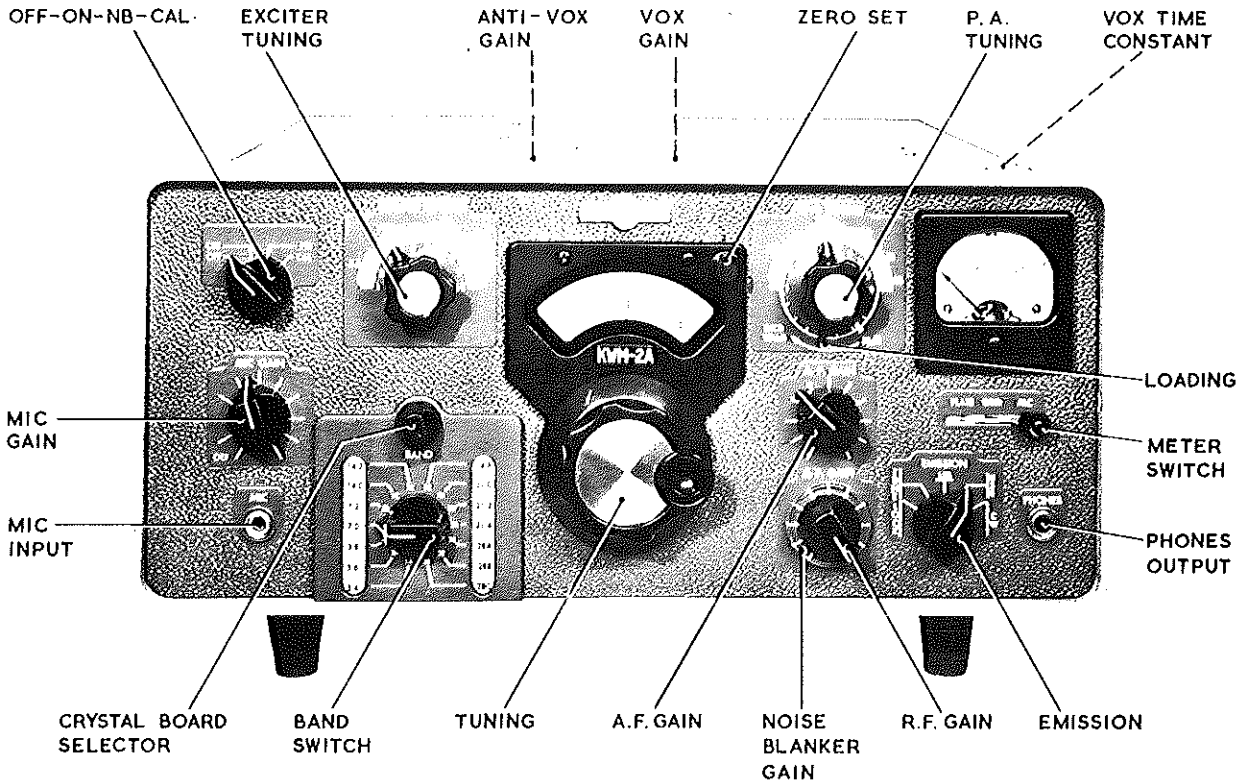
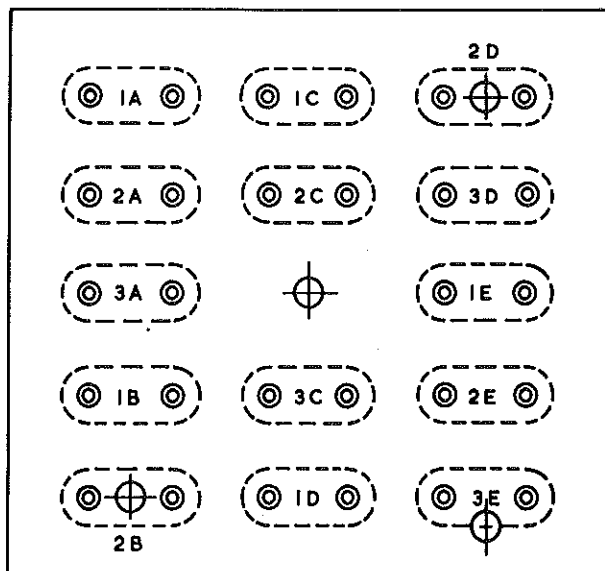

Fig. 1 Transceiver KWM-2A - controls and switches
Fig. 5 Crystal socket location
2. Fig. 1, 2 and 3 show the position of the switches and controls used in these procedures and Table 7 at the end of this chapter details the function of each switch or control. Calibration charts (fig. 6) are included which relate tuning control settings with frequency.
9. The transceiver KWM-2A provides a total of twenty-eight 200-kHz frequency bands in the range 3.4 MHz to 30 MHz. Twenty-eight crystal locating sockets are, therefore, provided on two mounting boards (fig. 5) and the required crystal, and hence the required frequency band, is selected by the 14-position BAND switch and its associated crystal board selector switch (fig. 1). One crystal mounting board is located under the chassis and is fitted with twelve crystals as standard components. Details of these crystals and the frequency bands is located on top of the chassis immediately behind the front panel, left-hand side, and is accessible via the unit top cover.